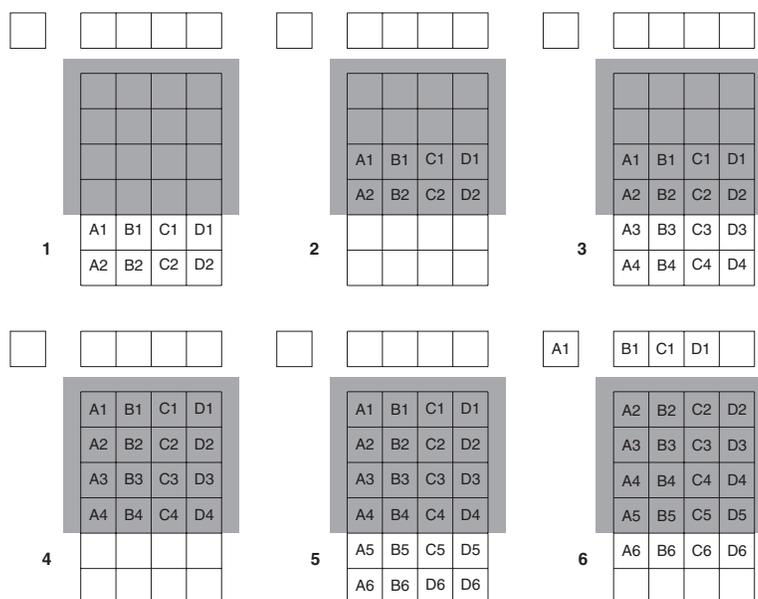

Figure 69. Kinetics Readout
Below is a simplified illustration of kinetics mode. Returning to our  $4 \times 6$  CCD example, in this case  $2/3$  of the array is masked, either mechanically or optically. The shutter opens to expose a  $4 \times 2$  region. While the shutter remains open, charge is quickly shifted just under the mask, and the exposure is repeated. After a third image is collected the shutter is closed and the CCD is read out. Since the CCD can be read out slowly, very high dynamic range is achieved. Shifting and readout are shown in Figure 69.
**Example:** Referring to the readout shown in Figure 69, there are 6 pixels perpendicular to the shift register and the Window Size is 2 pixels high. The number of frames is 3. If the Vertical Shift Rate for the CCD is  $1.6 \mu\text{sec}/\text{row}$ , the Shift time will be  $3.2 \mu\text{sec}$  per frame.